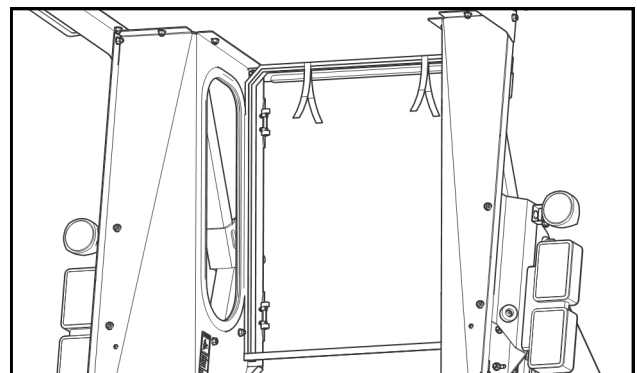

Fig. 15.4 (Upper Rear Curtain, w/ vinyl doors only)
- 15.4** Pre-install the supplied Velcro hook to the sewn-in Velcro loop on the upper three sides of the upper rear curtain. Leave the release tape on until the filler is in place. See fig. 15.4.